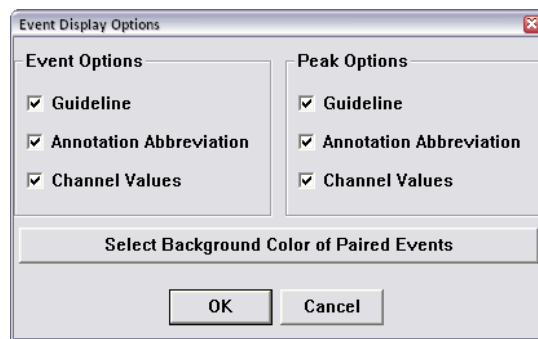

Figure 91: Event Display Options window
2. The *Event Display Options* window will load (Figure 91). Select preferred options and click **OK**.
This feature only applies to events configured with auto start and stop. The background of events' graphic range in the test selected can be highlighted using the **Select Background Color of Paired Events** button available on the *Event Display Options Menu* (Figure 91).
1. Click the **Select Background Color of Paired Events** button (Figure 91) to open the *Event Properties* window.